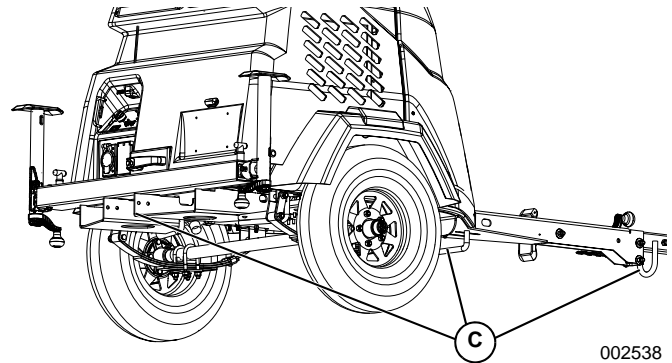

Figure 3-67. Tie-Down Points
See **Figure 3-67**. Use the tie-down points (C) as shown.